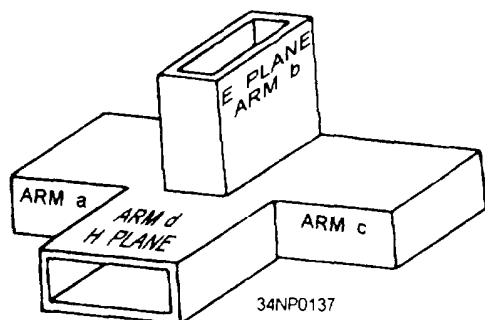

Figure 3-64.—Magic-T hybrid junction.
**MAGIC-T HYBRID JUNCTION.**— A simplified version of the magic-T hybrid junction is shown in figure 3-64. The magic-T is a combination of the H-type and E-type T junctions. The most common application of this type of junction is as the mixer section for microwave radar receivers.